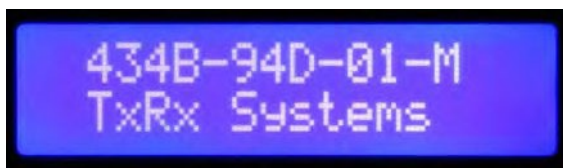

Figure 7: Default front panel screen display.
- 4) After the power-up sequencing is complete the screen should show the default display. See **Figure 7** below. The status LED for the active amplifier will glow a steady green and the status LED for the inactive (stand-by) LNA will be dark.